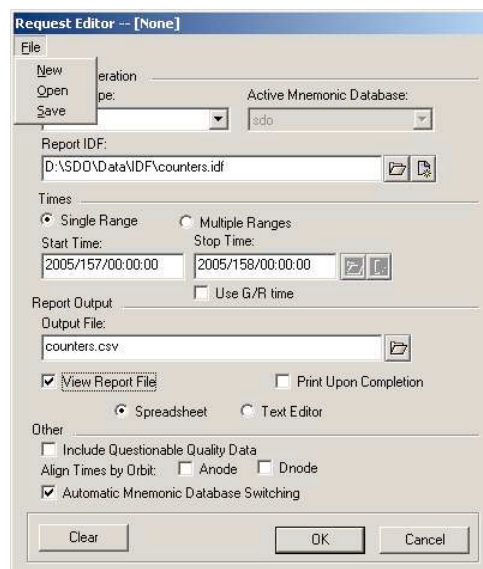

Figure 48: Request Editor New/Open/Save Screen
- Click the “File” option in the upper left hand corner of the “Request Edit” window (*Figure 48*).
- Select the “Save” option (see *Figure 48*) and choose an output filename.
- Select the “Open” option (see *Figure 48*) and select the request file to load.